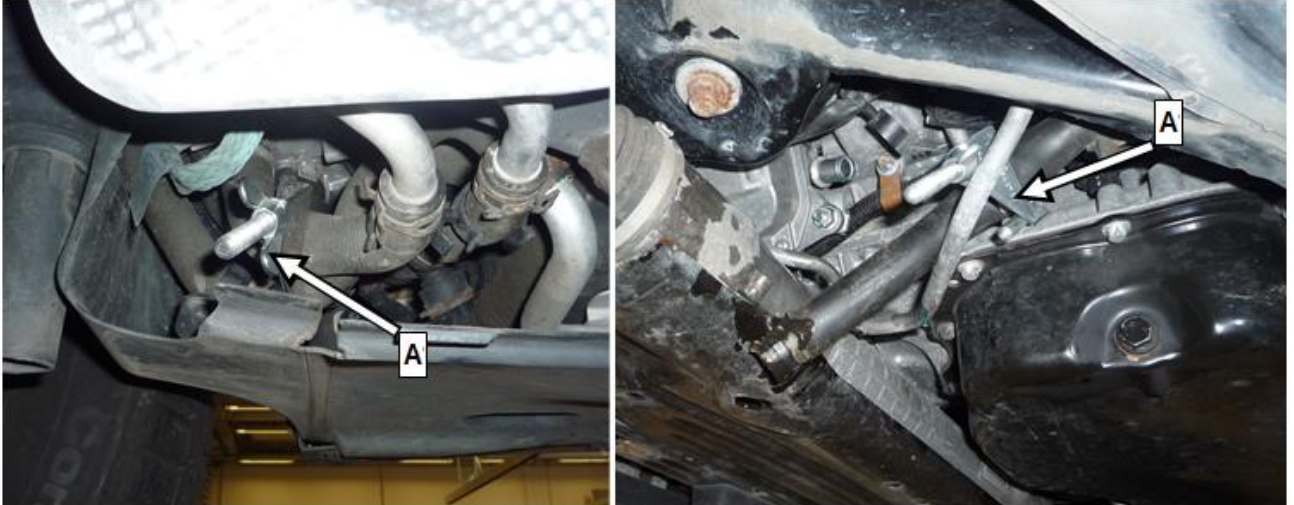

Figure 3
- It is not necessary to completely drain the coolant. Clamp off the coolant lines with hose clamp tool (A, Figure 3) in the area of the power electronics.